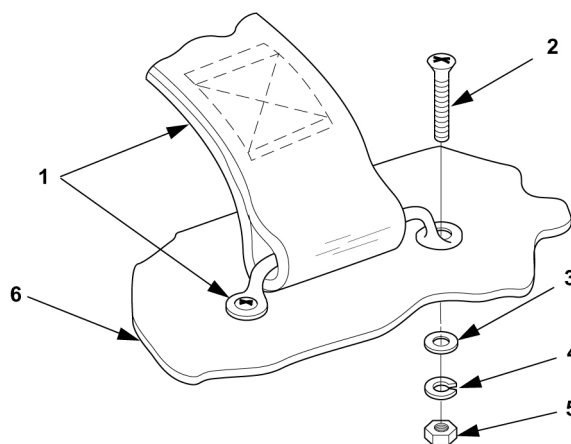

Figure 4-19. Strap Assembly Maintenance
1. Remove nuts (5, figure 4-19), lock washers (4), flat washers (3), and screws (2) that secure strap assembly (1) to trailer chassis (6).
2. Remove strap assembly (1).